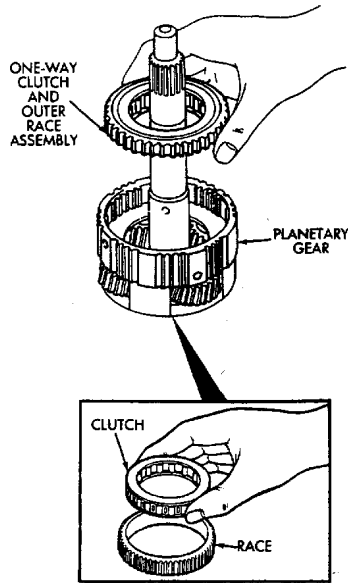

Fig. 14 Removing One-Way Clutch
- (15) Remove one-way clutch and outer race as assembly. Then separate race from clutch (Fig. 14).